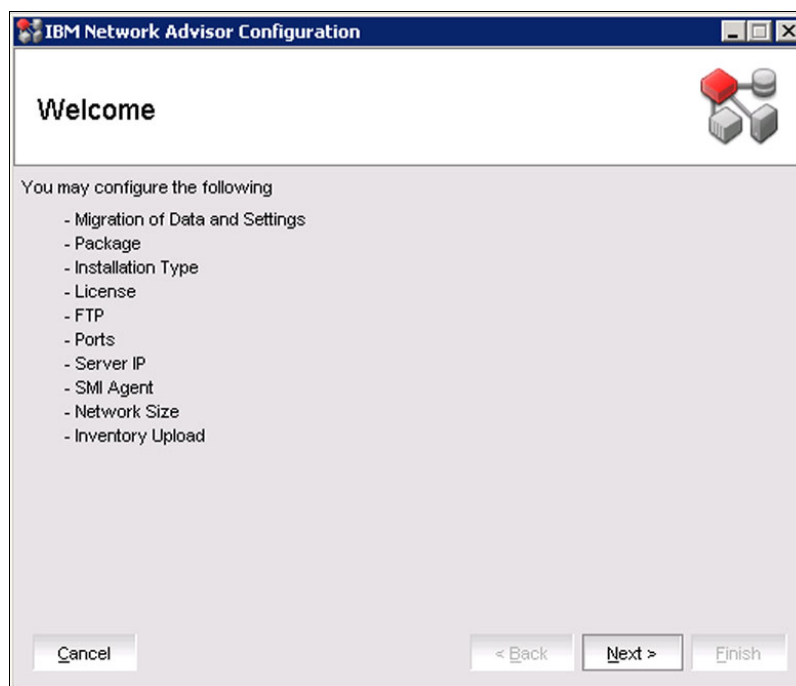

Figure 4-9 Configuration wizard main window
7. After you select the check box and click **Done**, the configuration wizard window opens listing the configuration activities like migrating data and settings, choosing the installation type, license, and FTP server, and so on (Figure 4-9). Click **Next**.